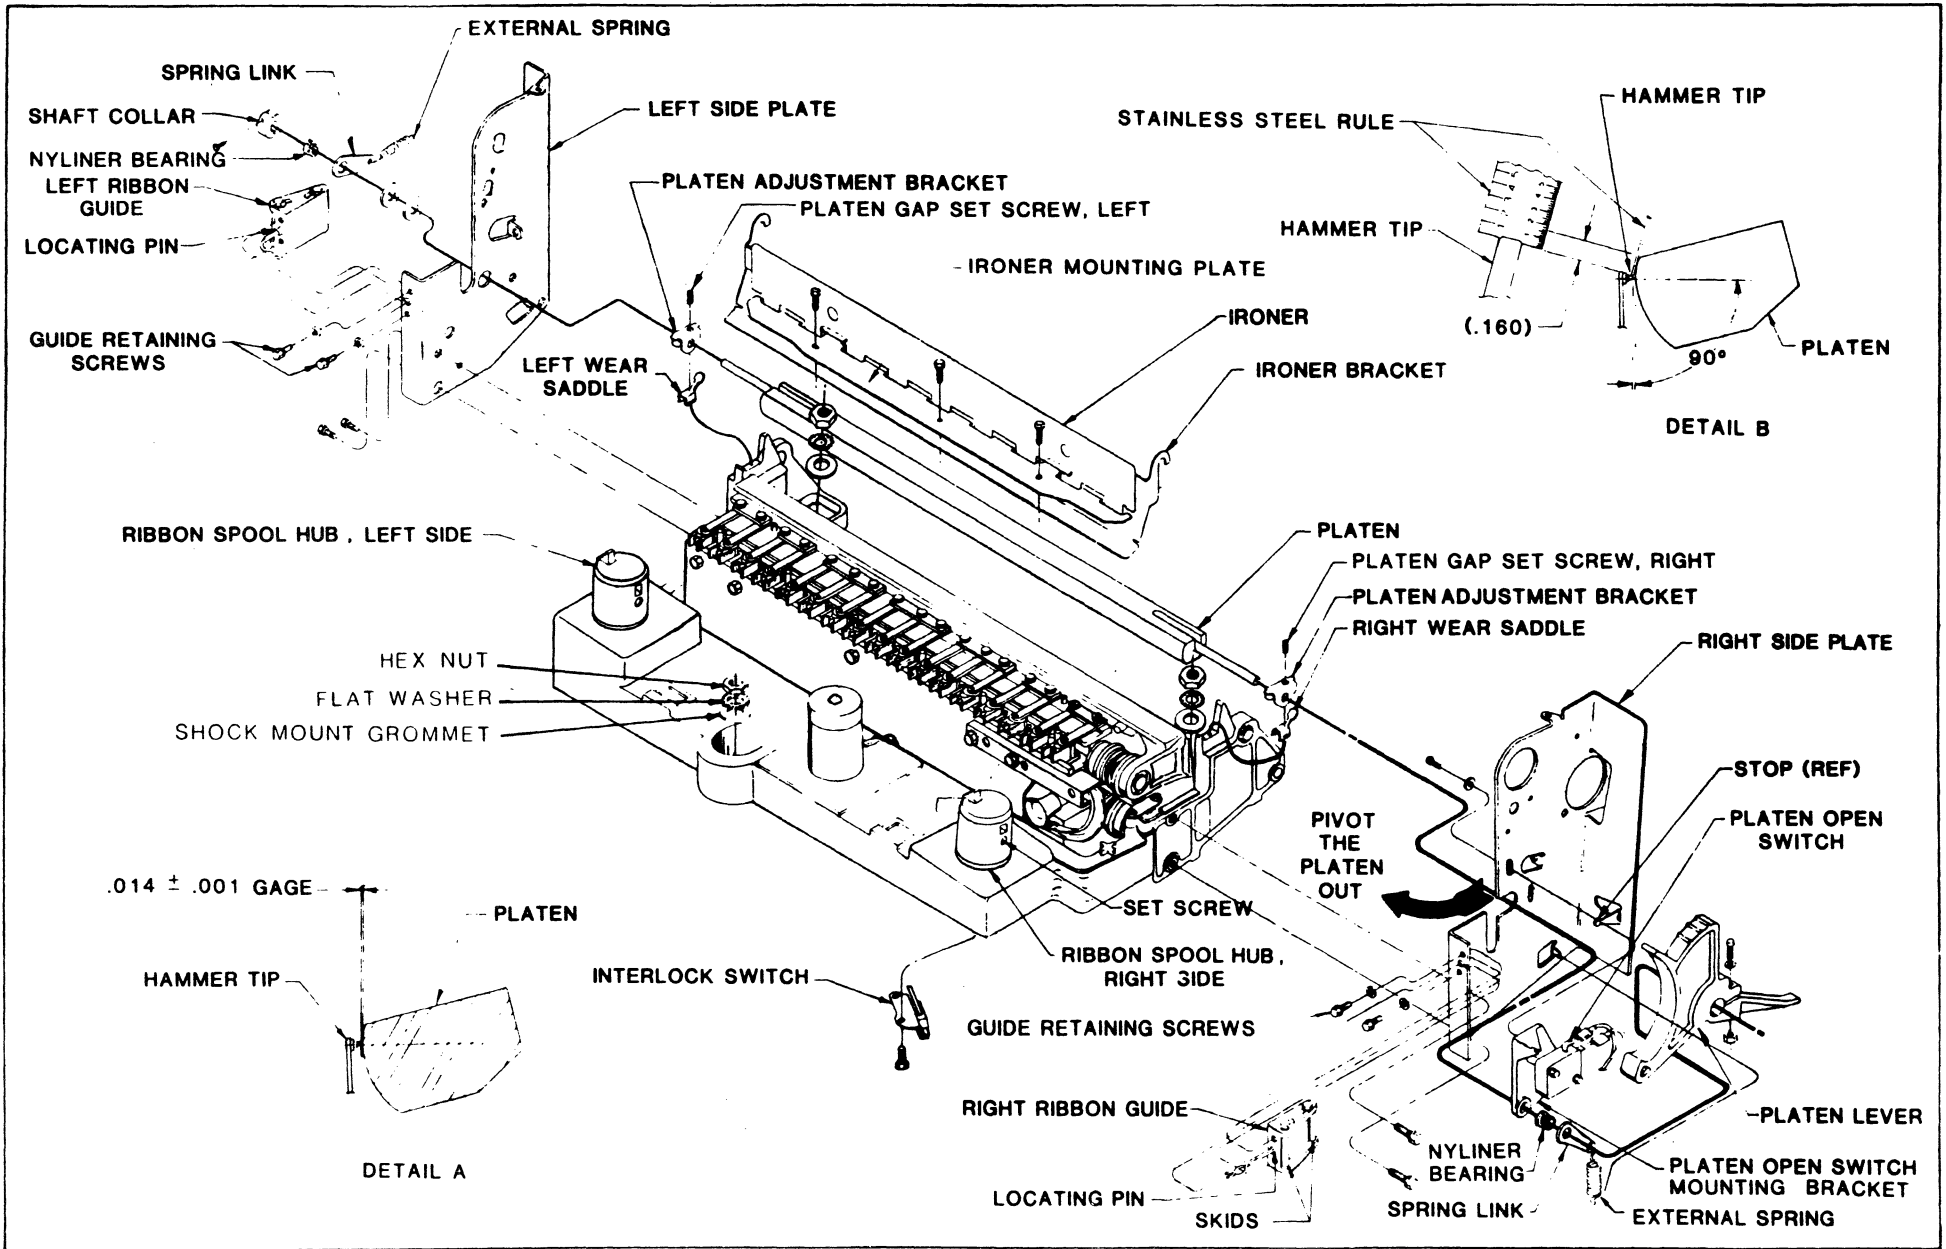

Figure 3-18. The Platen Assembly, Ribbon Guides and Spool Hubs
To obtain uniform print density, the gap between the hammer tips and the platen must be uniform and accurate. To adjust the hammer tip to platen gap, refer to **Figure 3-18, detail A** and proceed as follows:
To remove the platen, refer to **Figure 3-18** and proceed as follows:
2. Loosen the platen lever screw; then, position the platen so that the distance from the hammer tip to the flat top surface of the platen is 0.160 inch (**Figure 3-18, detail B**).
To remove the Platen Open Switch Assembly, refer to **Figure 3-18** and proceed as follows:
3. If the ribbon is not centered in the left hand ribbon guide, loosen the ribbon guide's holding screws but leave them snug enough to hold by friction (**Figure 3-18**). Pivot the guide on its locating pin (at the front of the guide) so that the ribbon tracks in the center of the guide; then, tighten the screws.
To remove a ribbon guide, refer to **Figure 3-18**, and perform the following steps:
To remove the Interlock Switch Assembly, refer to **Figure 3-18** and perform the following steps: